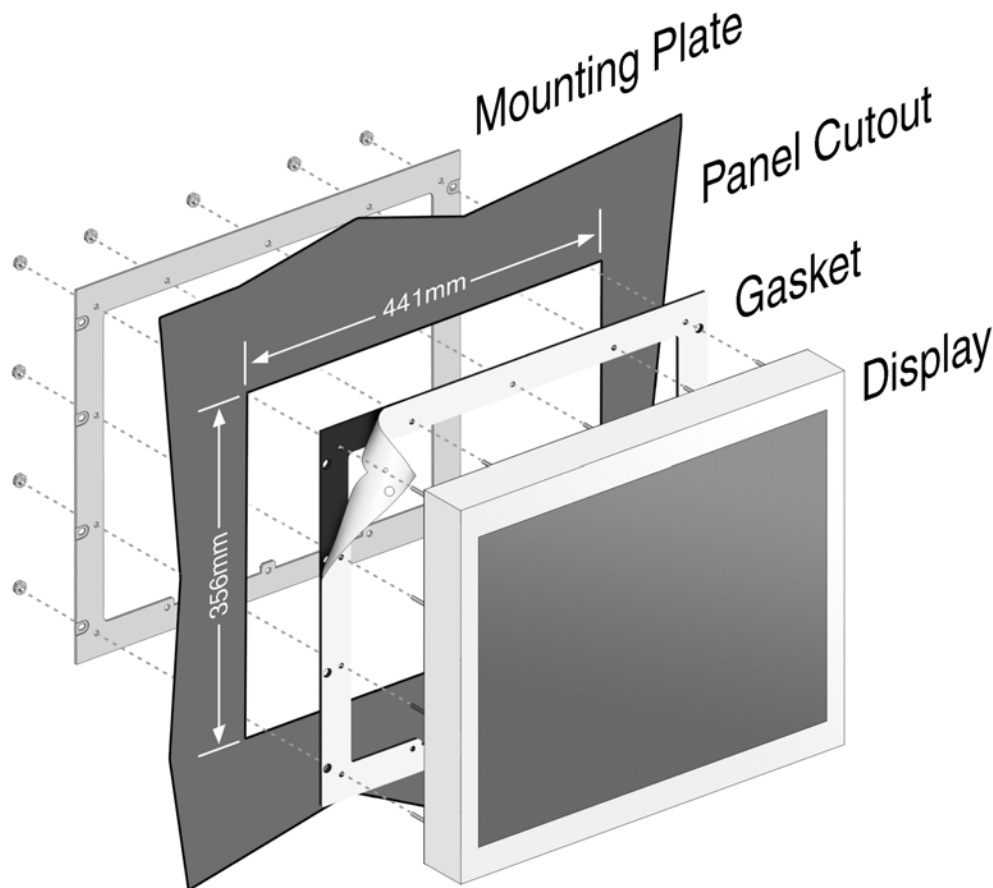

Figure 6: Panel Mounting
2. Figure 6), 356mm H x 441mm W for portrait installation.
5. Figure 6).